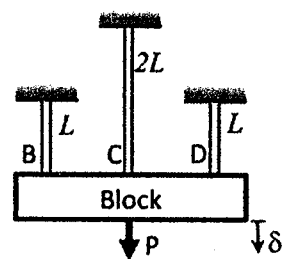

Fig. 4
- A rigid block is suspended by Rods B, C, and D as shown in Fig. 4. The three rods have the same cross section of A and are all made of elastic-perfectly plastic material with a modulus of elasticity E and a yield stress σ_Y . The lengths of Rods B, C, and D are L , $2L$, and L , respectively. The block is slowly subjected to a force P , which produces a downward displacement δ without rotating the block. Rods B, C, and D do not have initial axial force before P applies. Ignore the weight of the block. (25%)